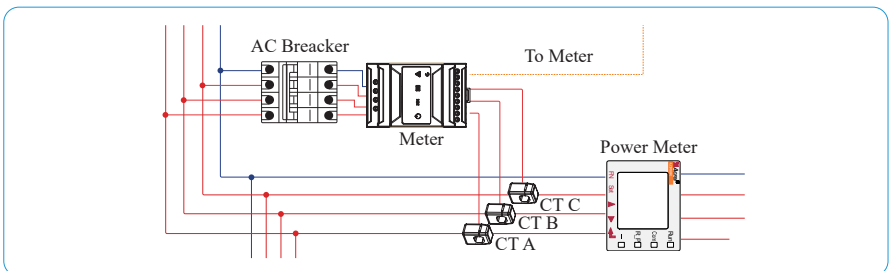

Figure 4-27 Meter wiring diagram
2) The CTs have been connected to the Essis Meter when you received them, and you just need to follow the wiring diagram in the Meter to connect CT, as shown in Figure 4-27.